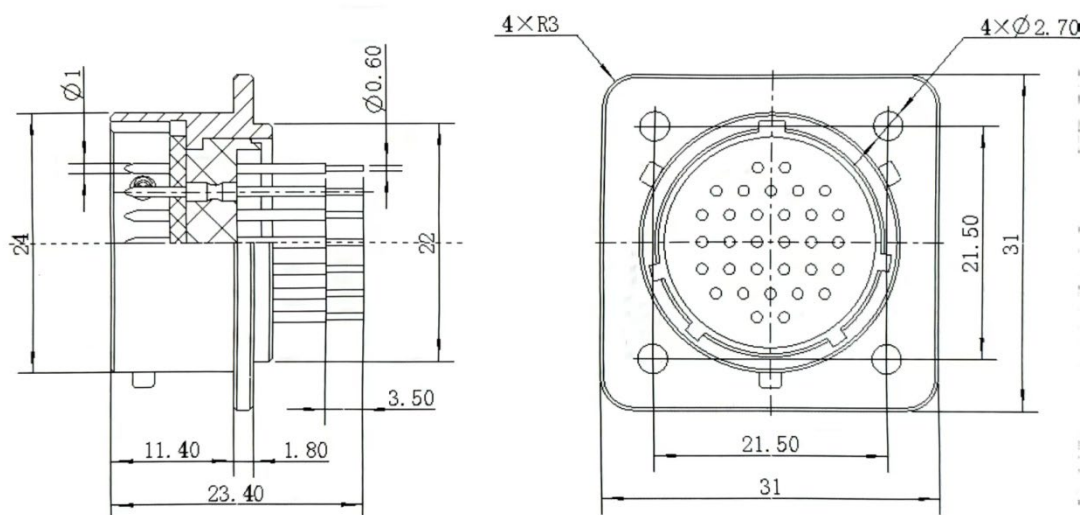

Figure 4. ZH127-2-32/22-BL1-1-B receptacle product dimensions drawing
- The overall dimensions of the ZH127-2-32/22-BL1-1-B receptacle product are shown in Figure 4.